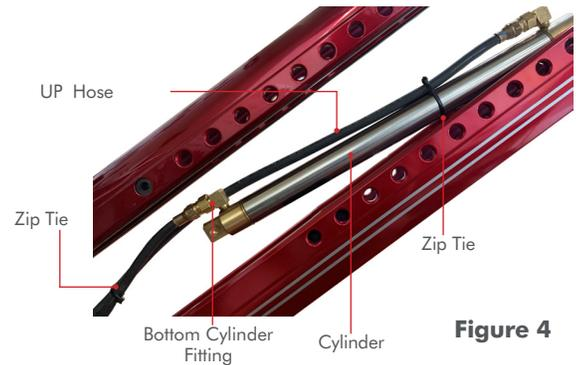

Figure 4
STEP 9: Zip-Tie the UP Hose 2/3 of the way up the Cylinder. It will run beside the Bottom Cylinder Fitting and lay on top of the Cylinder. **FIG 4**
STEP 10: Zip-Tie the **UP & DOWN Hoses** together halfway between the **Bottom Cylinder Fitting** and the point at which the hoses enter the Stern Bracket. **FIG 4**